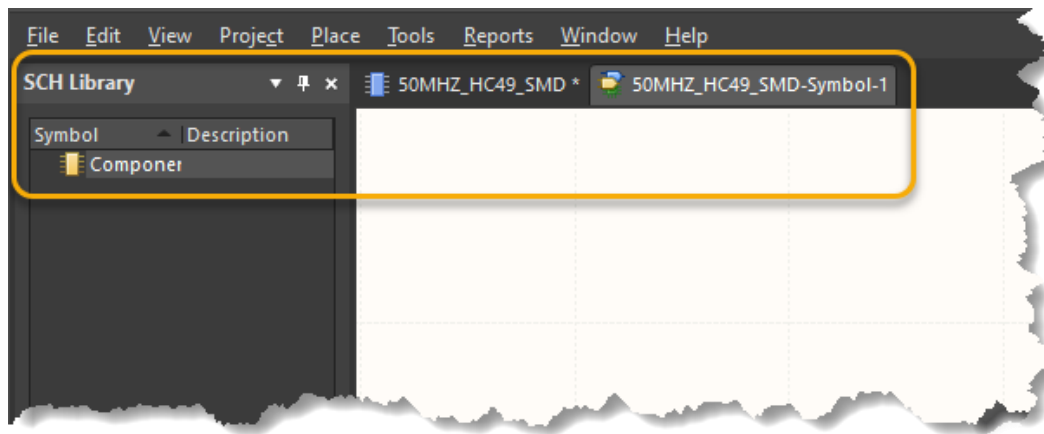

Figure 11. New Schematic Symbol Document
14. A new schematic symbol document will be added to the document bar, Figure 11.